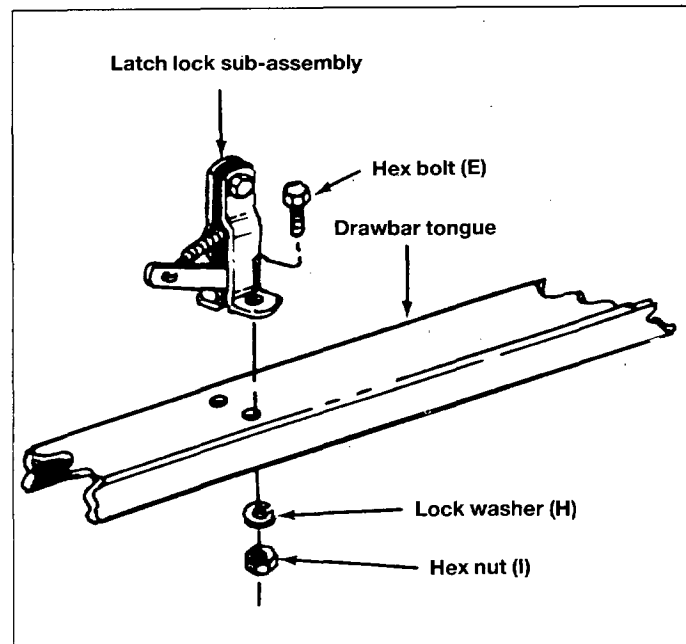

Fig. 13
18. Assemble latch lock sub-assembly to draw bar tongue using 1/4"×5/8 (6×16 mm) long hex bolt (E), lock washers (H) and hex nuts (I). See figure 13.